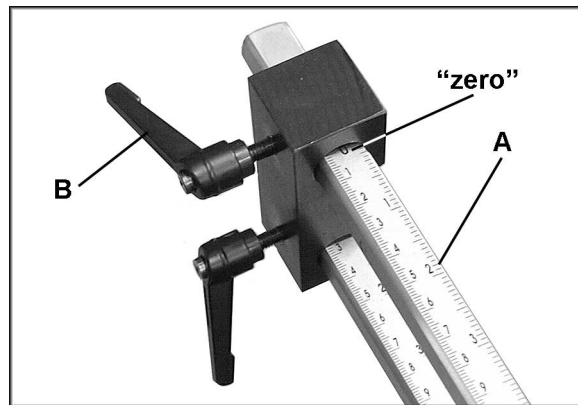

Figure 31
2. Set upper bar scale (A, Figure 31) to zero and tighten the locking handle (B, Figure 31). Do this at both ends of the main fence.
The fence is now “zeroed” to the boring bit centerline. For boring operations, the upper bar scales (A, Figure 31) will be set to the thickness of your workpiece.